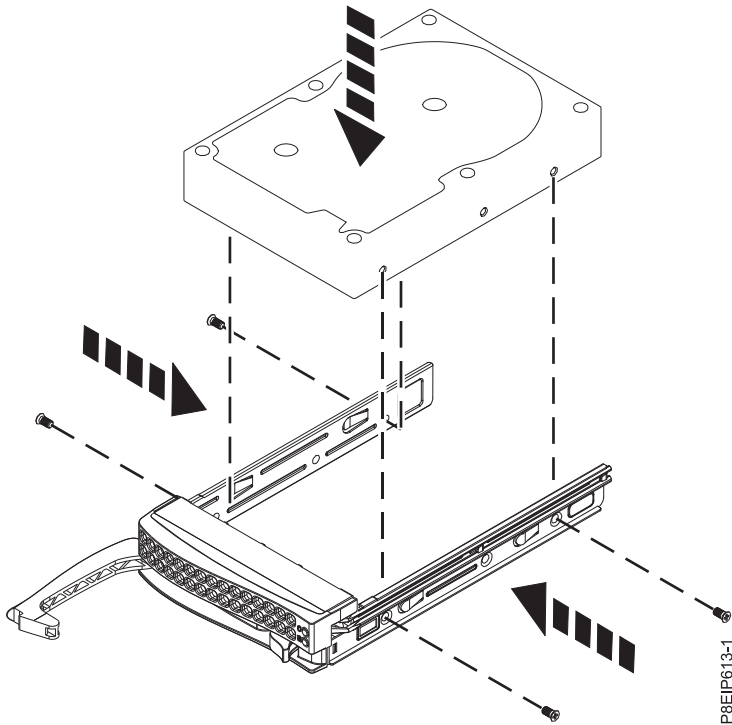

Figure 6. Mounting the 3.5-inch drive in the tray
- A 3.5-inch drive fills the tray, as shown in Figure 6 on page 12. Fasten the drive to the sides of the tray with four screws (two screws on each side).